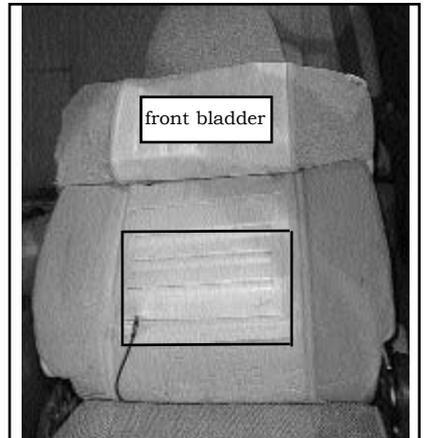

FIGURE 3
- B. **FRONT BLADDER: (FIGURE 3)**